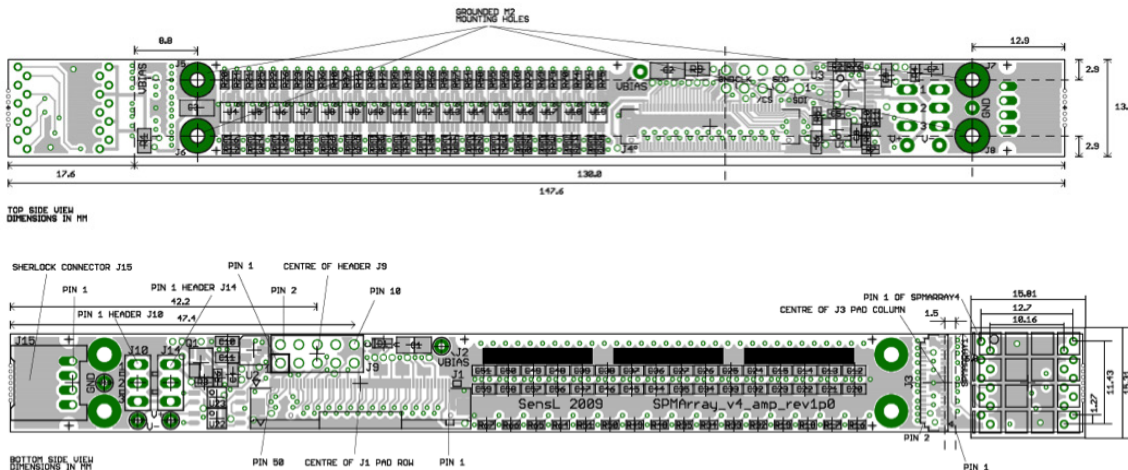

Figure 6: Top and bottom views of the preamplification board
*Sherlock pin 1 position indicated on Figure 6.